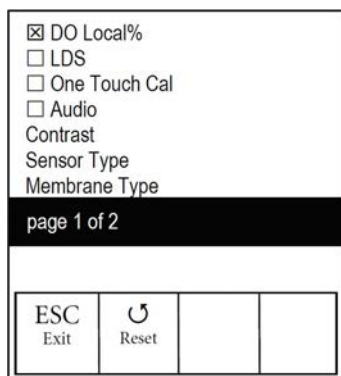

Figure 9, DO Local% is enabled.
Press the menu  key to access the System Setup menu. The System Setup menu contains three screens notated as 'pages'. The current page is indicated near the bottom of the display (figure 9).
**DO Local%** can be enabled or disabled by using the up or down arrow keys to highlight it and then pressing enter . An 'X' in the box next to DO Local% indicates it is enabled (Figure 9).